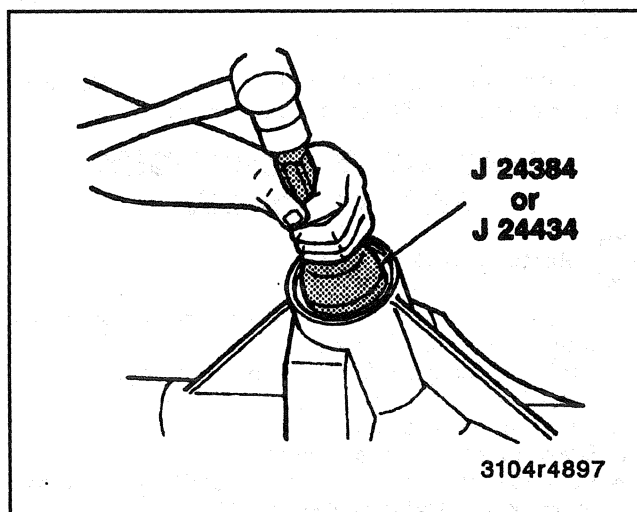

Figure 36—Installing Pinion Oil Seal Into Bore
1. Oil seal into the bore using J 24384 (Figure 36).